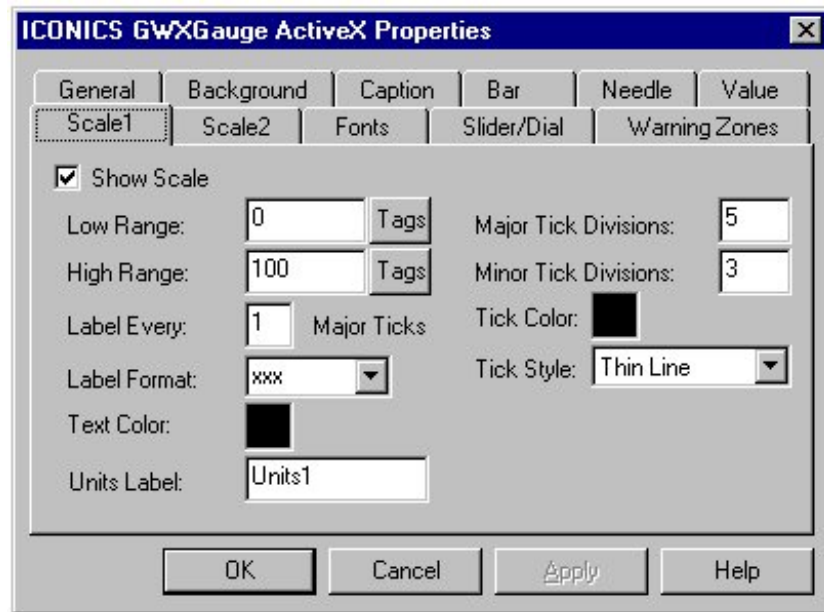

Figure 15-10: GWXGauge ActiveX Properties Dialog Box: Scale1 Tab
2. Select the Scale1 tab (Figure 15-10).